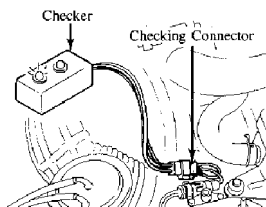

Fig. 2: RX7 Throttle Sensor Checker Hookups
3. Turn on the ignition switch and check that one of the lamps illuminates. See Fig. 2.